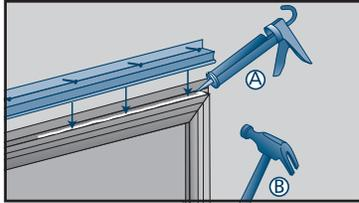

Fig. 45A & B
- Apply **1/4"** bead of sealant to top of the header brickmould along the front and side edges (**Fig. 45A**).